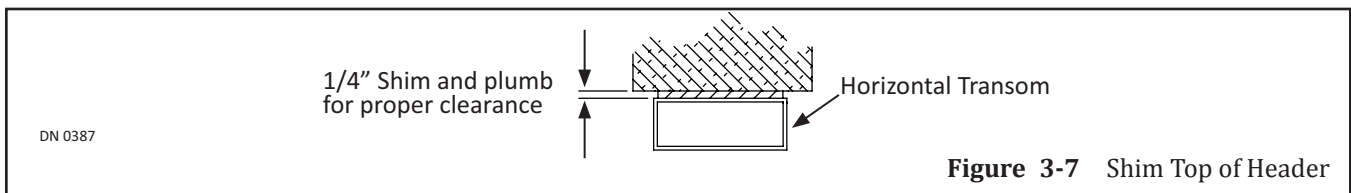

Figure 3-7 Shim Top of Header
3. Plumb the Header at the top to ensure the rough opening allows a 1/4 inch clearance. Please see Figure 3-7.